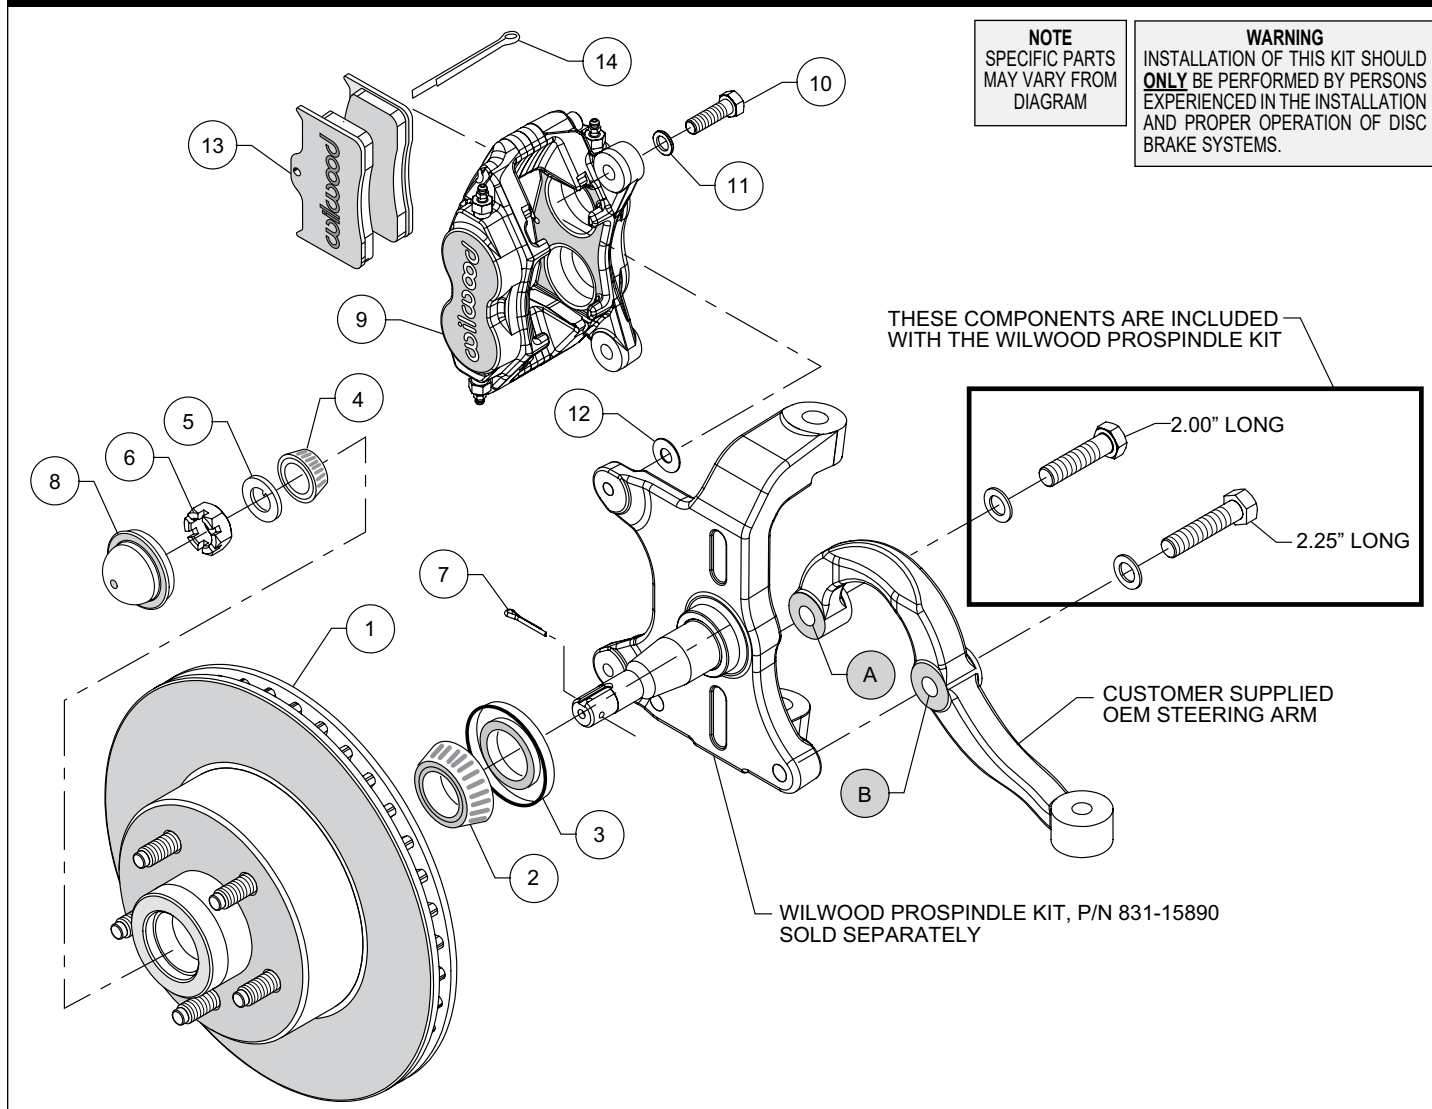

Figure 1. Typical Installation Configuration
NOTE: Numbers in parenthesis refer to the parts list and Figure 1 on the preceding pages.
•**NOTE:** Wilwood's AFX ProSpindle kit includes bolts and washers to mount the steering arm (customer supplied) to the spindle. The various bolts are identified by length in the following instructions and in Figure 1.
•Orient the steering arm, and identify the hole marked "A" as shown in Figure 1. Attach arm to spindle using 2.00" long bolt and washer (from ProSpindle kit), Figure 1. Finish attaching the steering arm through the hole marked "B", using 2.25" long bolt and washer (from ProSpindle kit), Figure 1. Temporarily tighten the mounting bolts. **NOTE:** The steering arm must fit squarely against the mounting points on the spindle. Inspect for interference from casting irregularities, machining ridges, burrs, etc. Remove bolts one at a time, apply red *Loctite*® 271 to threads, and torque to 77 ft-lb.
•Pack the large inner bearing cone (2) with high temperature disc brake bearing grease (available from your local auto parts store) and install into the backside of the hub/rotor (1), Photo 1.
•Install the grease seal (3) by pressing into the backside of the hub/rotor (1), flush with the end of the hub.
•Pack the small outer bearing cone (4) with high temperature disc brake bearing grease and install into the front side of the hub/rotor (1). Slide the hub/rotor onto the spindle. Secure using spindle washer (5) and spindle nut (6), Photo 2. Bearing adjustment: Tighten the nut while turning the hub. When there is a slight bind on the bearings, they are seated correctly. Back the nut off about 1/6 to 1/4 of a turn, or sufficiently to allow .001" to .007" end play.
•Press the dust cap (8) into the hub/rotor (1). **NOTE:** Do not hammer center of cap. Install using outer flange only.
•Mount the caliper (9) onto the caliper mounting tabs on the spindle using bolts (10) and washers (11), as shown in Figure 1. Initially place one .035" thick shim (12) on each bolt between the caliper and the mounting tabs on the spindle, Figure 1 and Photo 3. Temporarily tighten the mounting bolts and view the hub/rotor (1) through the top opening of the caliper. The rotor should be centered in the caliper (9), Photo 4. If not, adjust by adding or subtracting shims (12) between the mounting tabs and the caliper. Always use the same amount of shims on each of the two mounting bolts. Once the caliper alignment is correct, remove the bolts one at a time, apply red *Loctite*® 271 to bolt threads, and torque to 40 ft-lb.
•Install the disc brake pads (13) into the caliper, with the friction material facing the hub/rotor (1), Photo 5. Secure in place using cotter pin (14), Photo 6.